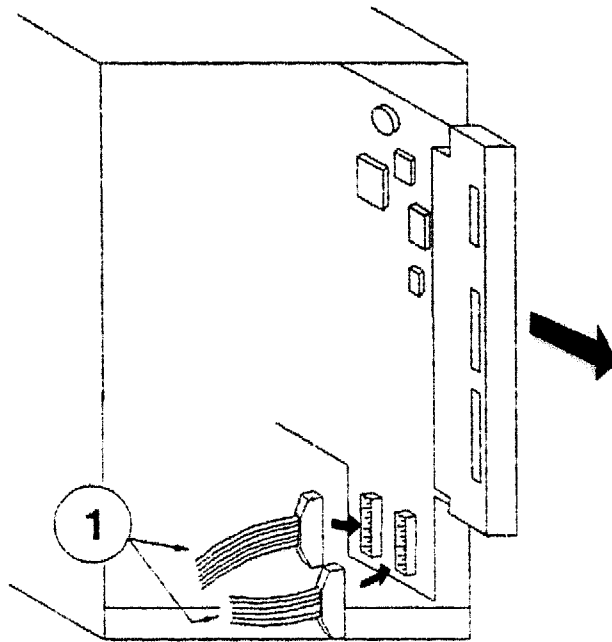

Figure 8-13.
Refer to Figure 8-13.
7. Use a thin screwdriver to pry the battery out of its holder (Figure 8-13 (1)).